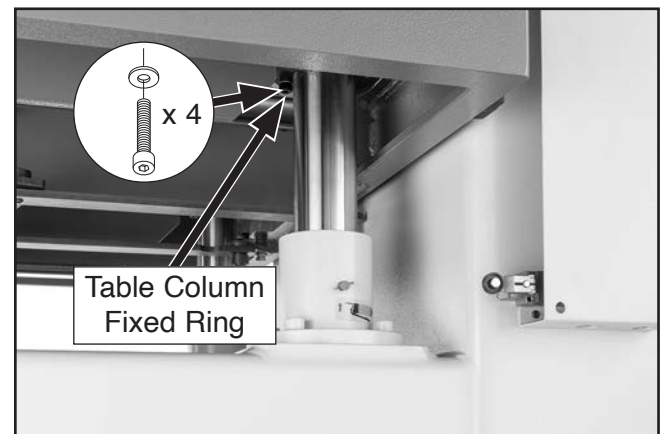

Figure 93. Location of rear left table column fixed ring.
7. On left side of table, loosen (4) cap screws on rear left table column fixed ring (see **Figure 93**), then turn column as needed until value on Rotacator/dial indicator is within tolerance left side of table is parallel front-to-back.